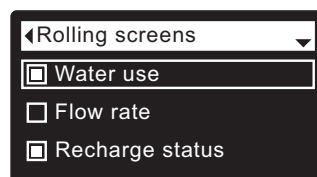

FIG. 54
5. Press the SELECT (O) button to display the Rolling screens menu (See Figure 54).